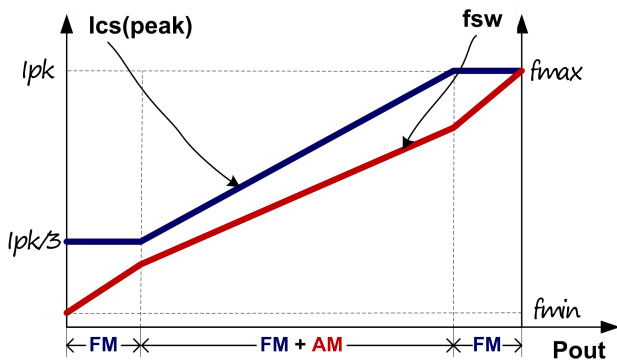

Fig.4
To meet the tight requirement of averaged system efficiency and no load power consumption, a hybrid of frequency modulation (FM) and amplitude modulation (AM) is adopted in DP2525D which is shown in the Fig 4.